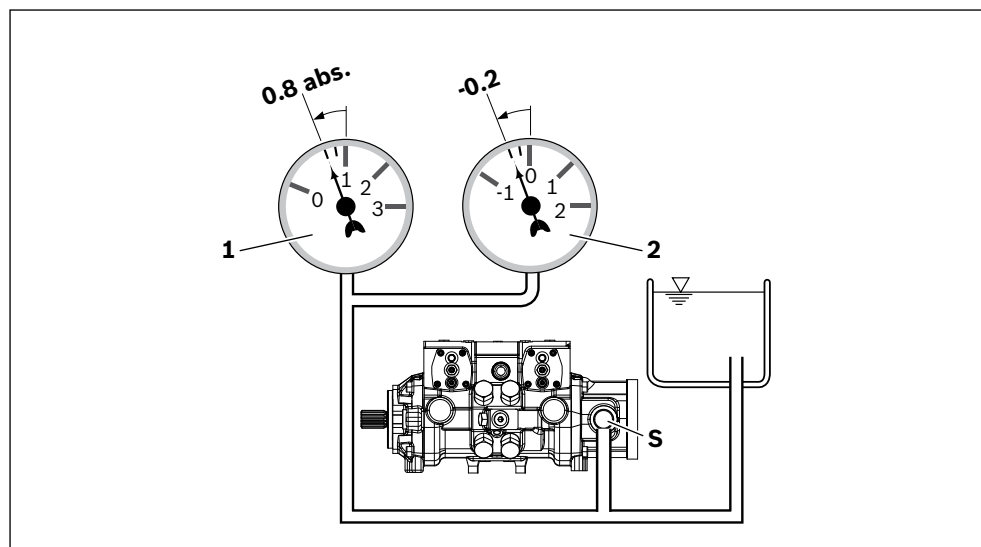

Fig. 6: Suction pressure
- ▶ Make sure that a minimum suction pressure of 0.8 bar absolute is present at port **S** during operation (0.5 bar absolute for cold starts) in all installation positions and installation locations for the axial piston pump, see Fig. 6. Please refer to the data sheet for further pressure values.